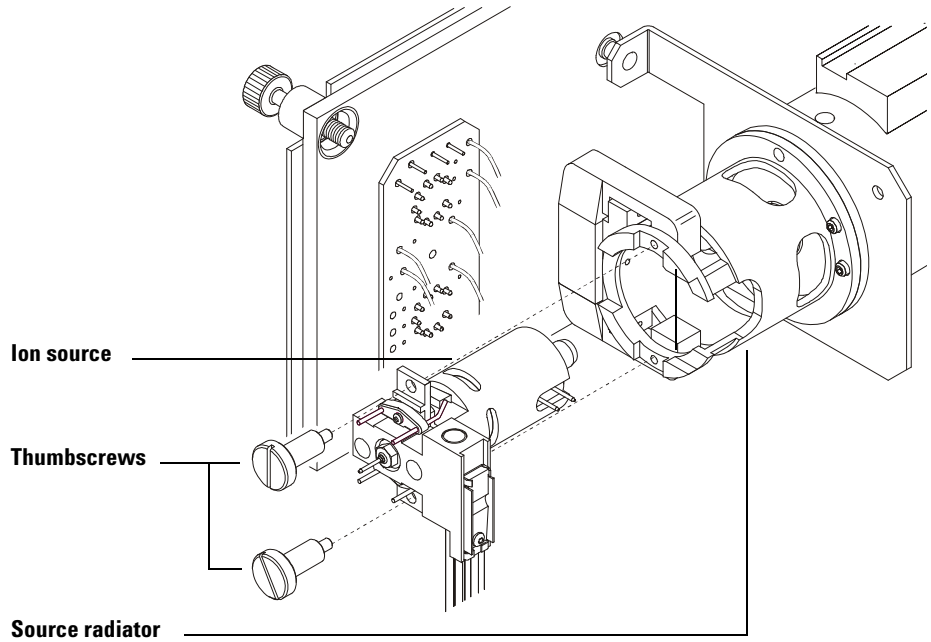

Figure 32 Installing the EI ion source
- 1** Slide the ion source into the source radiator (Figure 32).